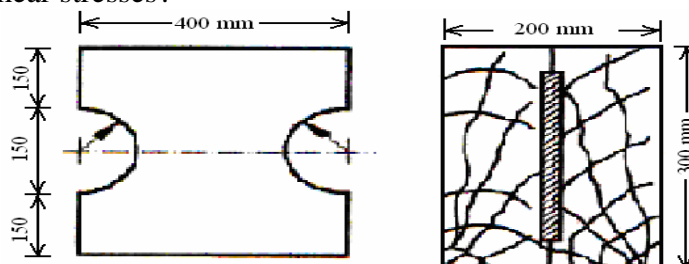

Figure 3
4. Develop the shear stress distribution diagrams for the sections shown for the following Figure 3 when subjected to a transverse S.F. of 200.0 kN. What are the maximum shear stresses? [15]